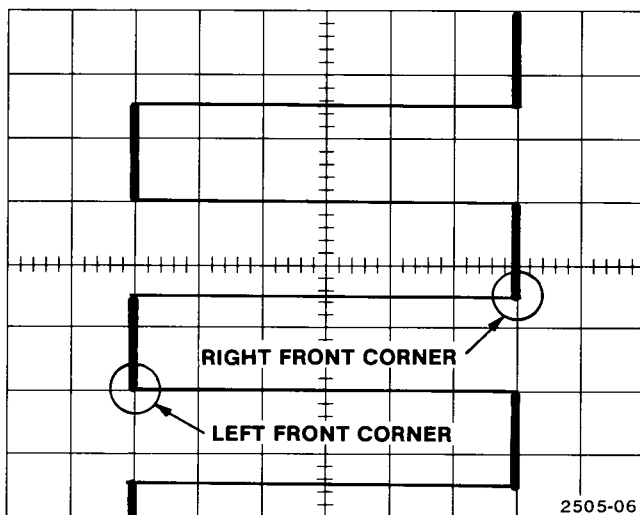

Fig. 4-3. Typical display for adjusting horizontal compensation.
k. ADJUST—C368 (HF Comp) for an optimum square right front corner on the 603A display (see Fig. 4-3). For best accuracy, position the display corner of interest to graticule center.
e. ADJUST—C310 (+X Atten Comp) for an optimum square right front corner on the 603A display (see Fig. 4-3). For best accuracy, position the display corner of interest to graticule center.
g. ADJUST—C330 (-X Atten Comp) for an optimum square left front corner on the 603A display (see Fig. 4-3). For best accuracy, position the display corner of interest to graticule center.